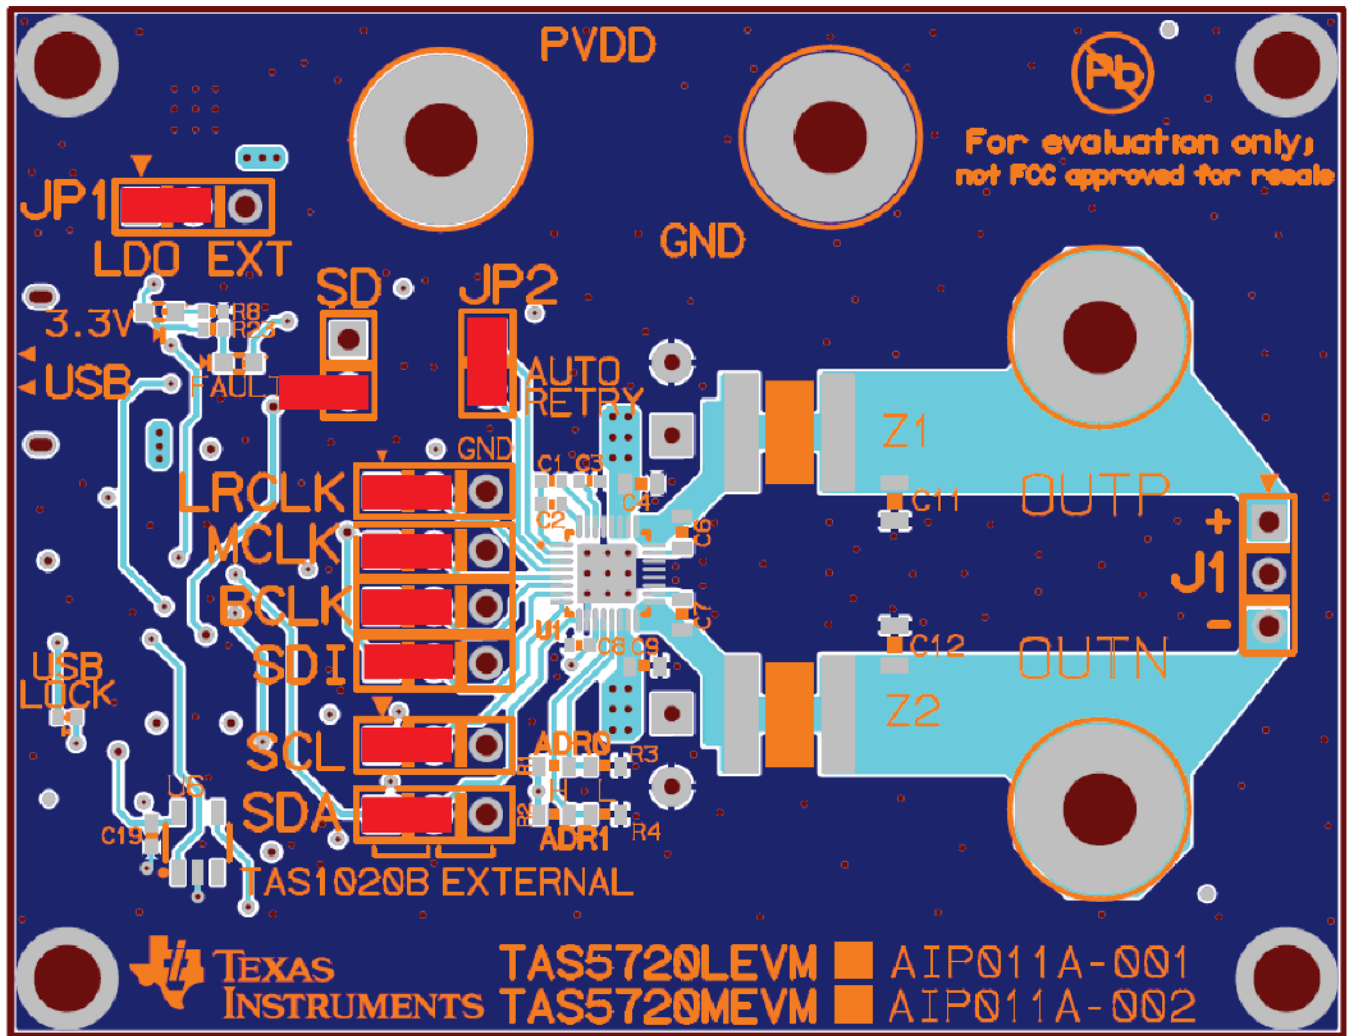

Figure 2-1. TAS5720MEVM Default Jumper Settings
1. Ensure all the jumpers are set correctly according to Table 2-1 and Figure 2-1.